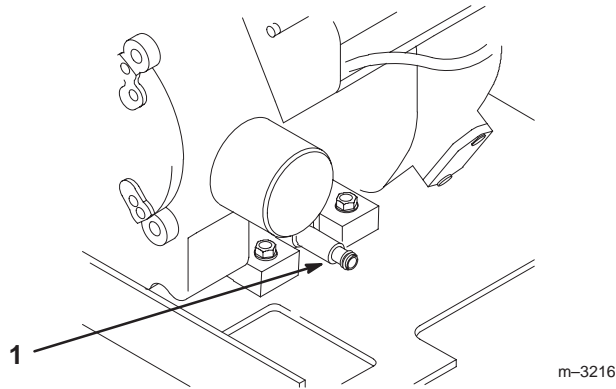

Figure 24
- Open the drain valve by turning it counterclockwise, pulling out as you turn it (Fig. 24).